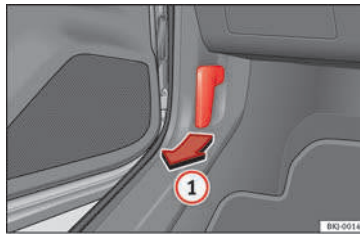

Fig. 7 Release lever in the driver's footwell area.
- Open the door and pull the lever under the dashboard » **Fig. 7** ①.